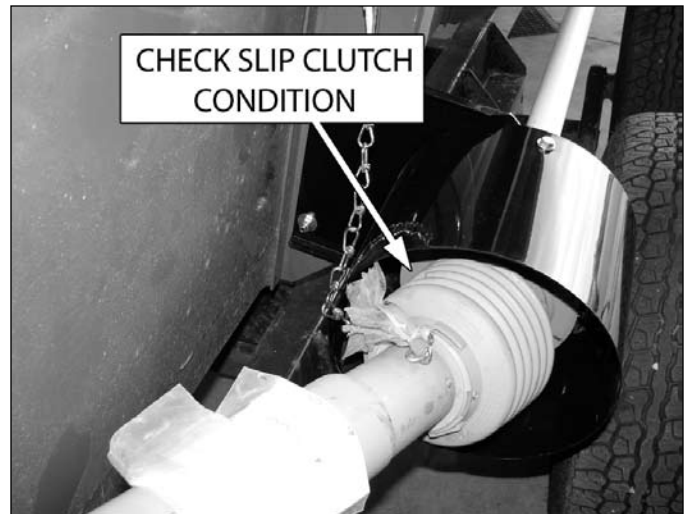

Figure 52, Check condition of torque limiter (slip clutch)
1. Disconnect the PTO driveline from the implement (Figure 52).